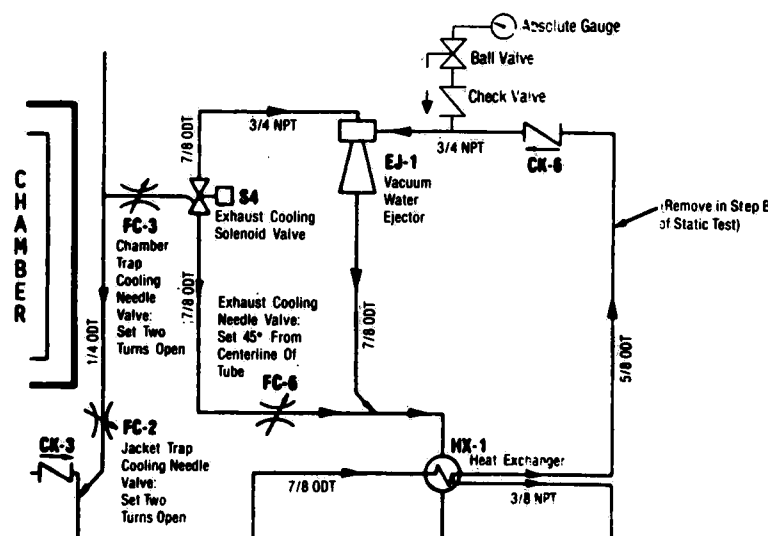

Figure 5-11. EJECTOR VACUUM TEST PIPING.
b. Allow sterilizer to exhaust to approximately 10-inches Hg and disconnect 5/8 ODT (see Fig. 5-11) copper inlet tubing from check valve.
g. If ejector fails test, check water temperature (ensure 85 F or less) and water pressure (ensure 30-50 psi). To check water pressure, install gauge at 1/8-inch plugged opening (see Fig. 5-11) on solenoid valve (S4).